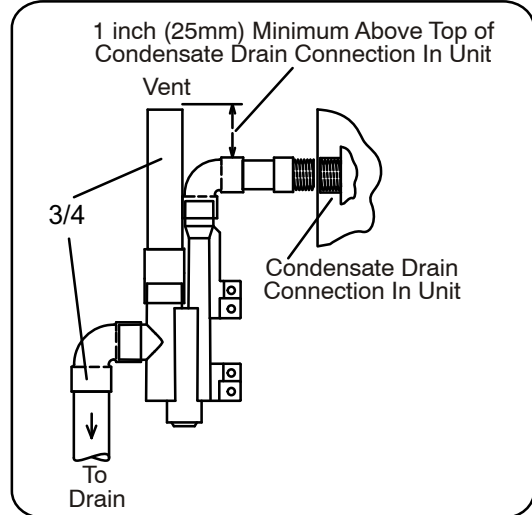

FIGURE 36
- 3 - Install drain trap using appropriate PVC fittings, glue all joints. Glue the provided drain trap as shown in figure 36. Route the condensate line to an open drain.